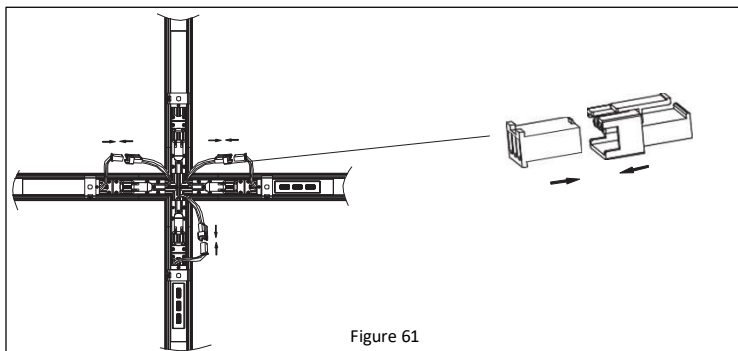

Figure 61
- Make electrical connection between fixtures and "X" connector using male-female connectors. **See Figure 61.**